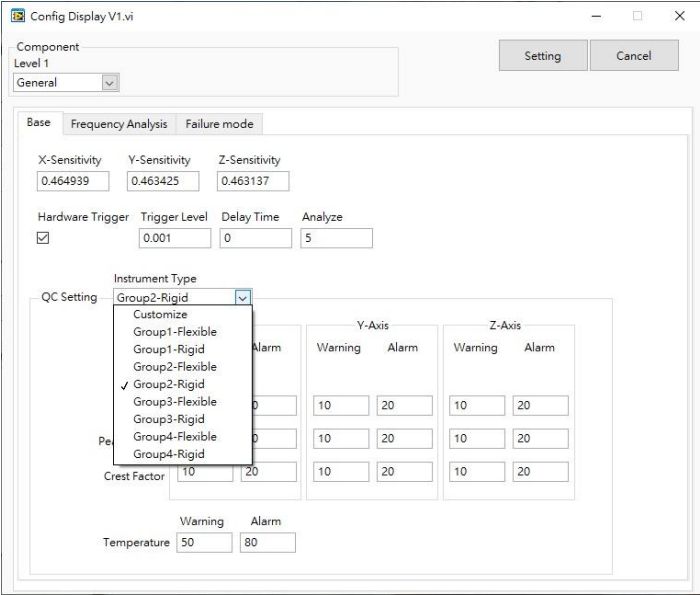

Figure2-20 Aurora Modbus Utility ISO-20816 Defined Equipment Category under General Mode
- **Instrument Type:** Which equipment category defined in ISO-20816 the monitored equipment belongs to, as shown in Figure2-20; reading displays Group2-Rigid.